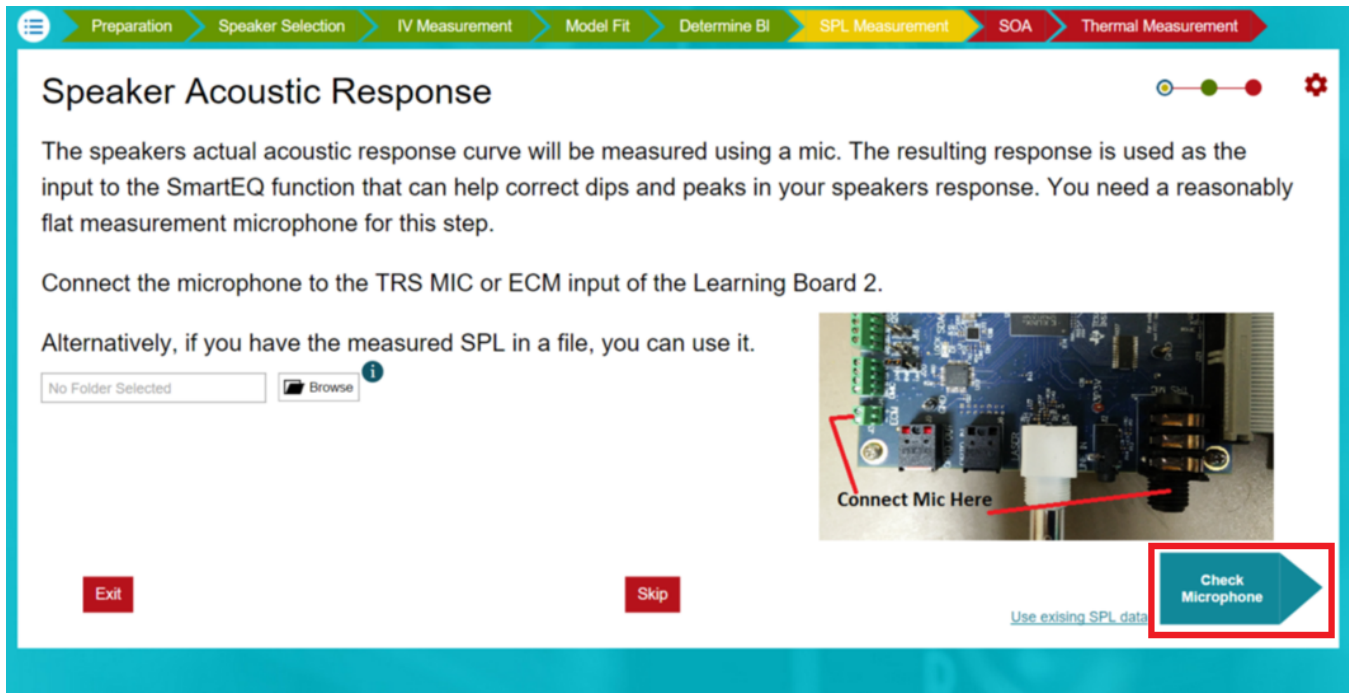
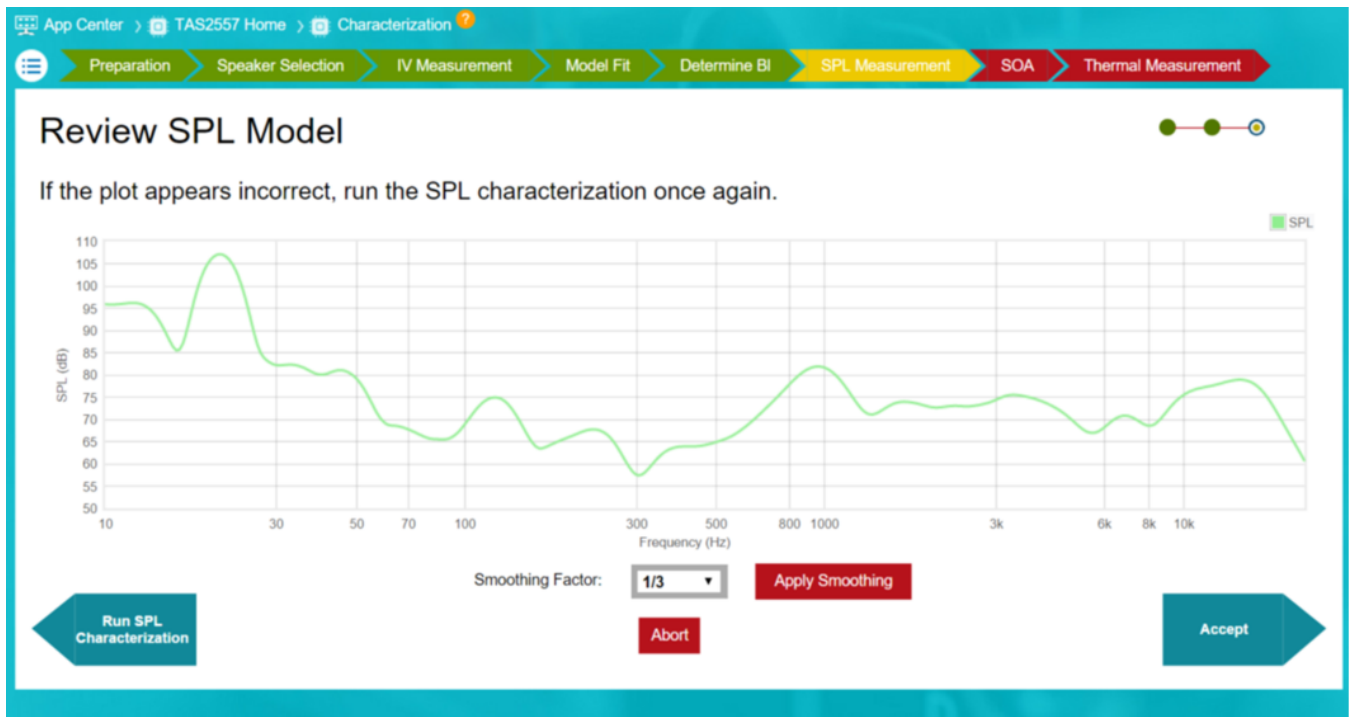

Figure 9. SPL Measurement
Figure 10. SPL Measurement Plot
- Continue to the SPL Measurement Tab and select Check Microphone, as shown in Figure 9, to test the microphone and then begin the SPL Measurement to obtain an SPL similar to Figure 10.